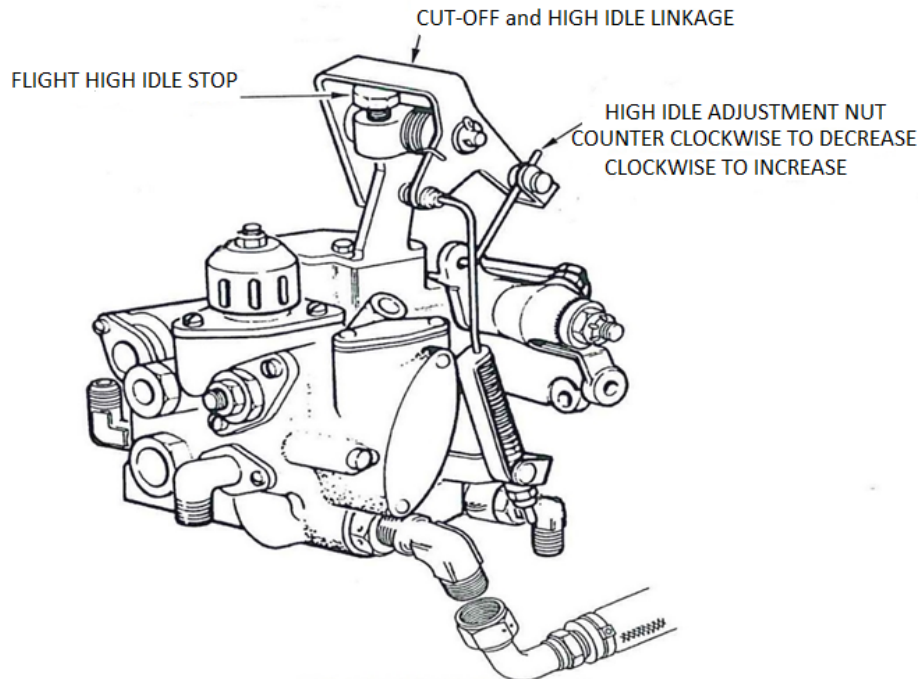

Figure 3 - FUEL CONTROL UNIT ADJUSTMENT
4 If the Ng speed is more than 72% turn the high idle adjusting nut Counter Clockwise (CCW) to decrease Ng speed to within limits. One turn of nut is approximately 1% of Ng speed (REF FIGURE 3).
5 If the Ng speed is less than 68%, turn the high idle adjusting nut Clockwise (CW) to increase Ng speed to within limits. One turn of nut is approximately 1% of Ng speed (REF FIGURE 3).